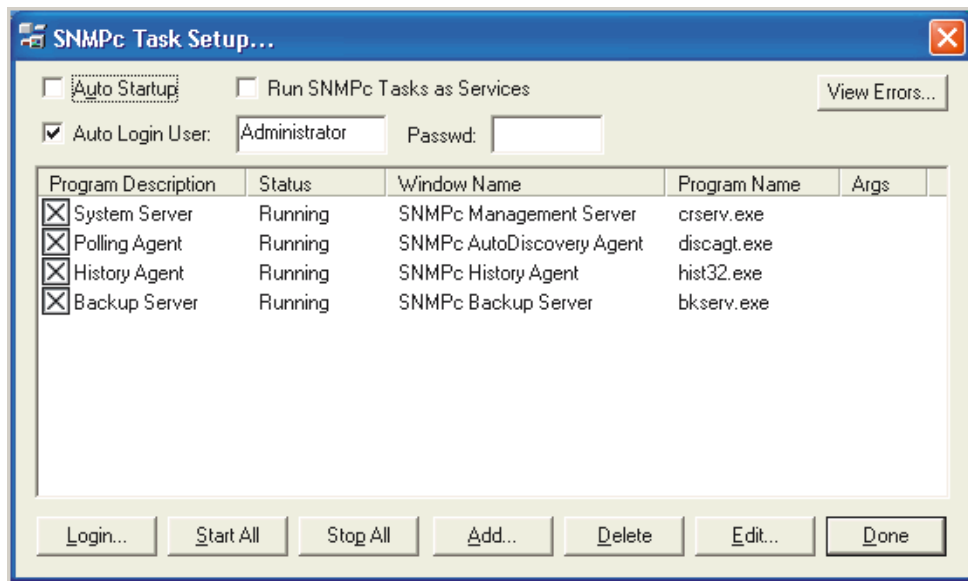

Figure 3-1. SNMPc Task Setup Dialog Box
2. To prevent SNMPc from opening automatically, select **All Programs** > **SNMPc Network Manager** > **Configure Tasks** (see Figure 3-1).